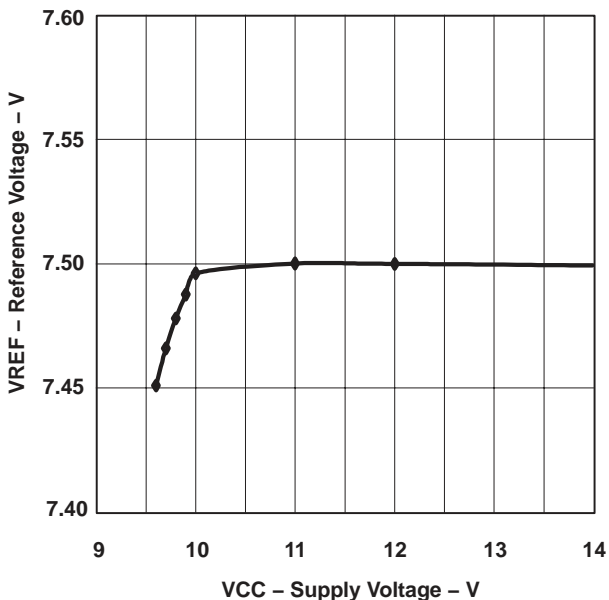

Figure 2
(2) Reference variation for $V_{CC} < 10.8\text{ V}$ is shown in Figure 2.
(2) Reference variation for V_{CC} < 10.8 V is shown in Figure 2.